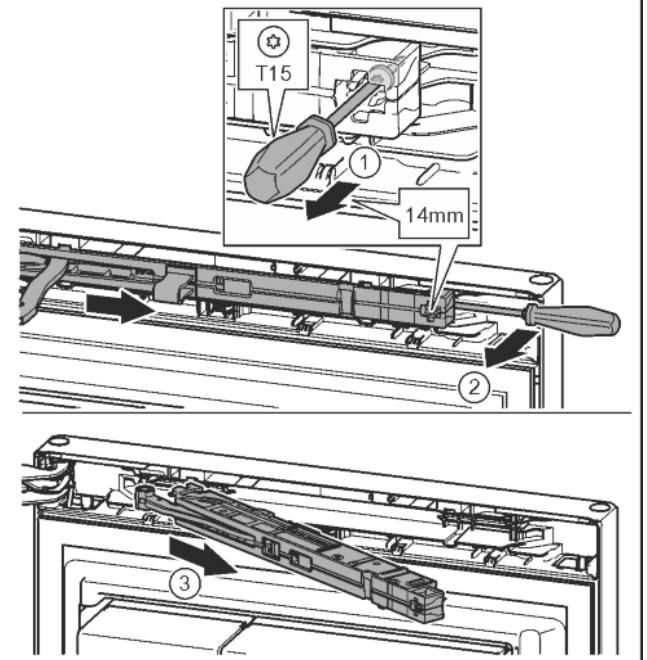

Fig. 10
- ▶ Undo the soft stop mechanism screw with a T15 screwdriver approx. 14 mm. *Fig. 10 (1)*
- ▶ Insert a screwdriver behind the soft stop mechanism on the handle side and rotate forwards. *Fig. 10 (2)*
- ▶ Remove the soft stop mechanism. *Fig. 10 (3)*